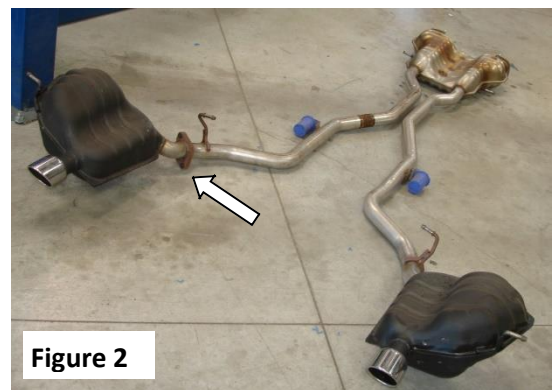

Figure 2
3. Remove the hardware on the left-rear muffler. Carefully remove the muffler from the hangers. (See Fig. 2)